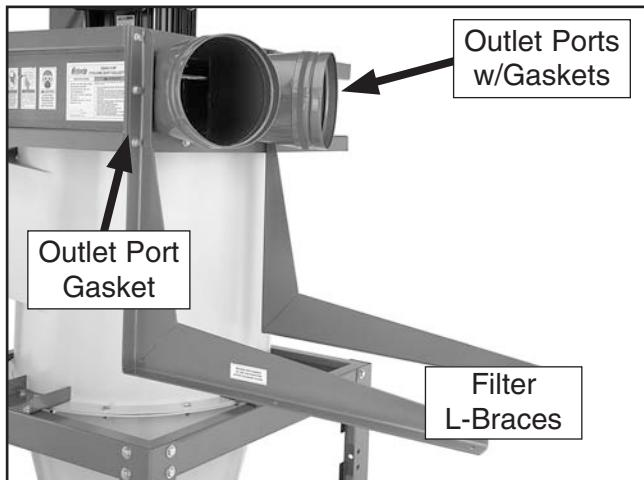

Figure 31. Filter L-braces mounted to blower housing.
29. Attach (1) 3 x 15 x 700mm gasket to the outer circular rims of each outlet port.
30. Mount the outlet port to the blower housing with (4) $5/16$ "-18 x 1" hex bolts, (8) $5/16$ " flat washers, and (4) $5/16$ "-18 hex nuts (see **Figure 31**).